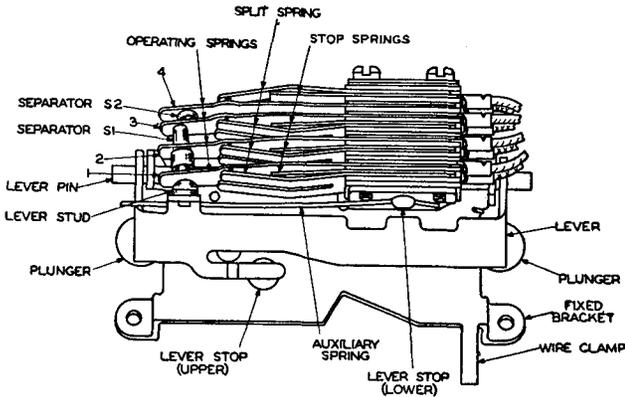

Fig. 4—Switch Assembly for the P-339939 Mounting Assembly
(d) For the P-339939 mounting assembly, the four operating spring assembly is equipped with an auxiliary spring. (See Fig. 4.) No adjustment shall be made on this spring.
- (c) Depress and release the plunger and observe that all contacts which are intended to make shall have positive pressure. If contacts are worn or burned, replace the set. In order to increase the contact pressure or the separation between contacts, the stop spring (shown in Fig. 4) should be adjusted.